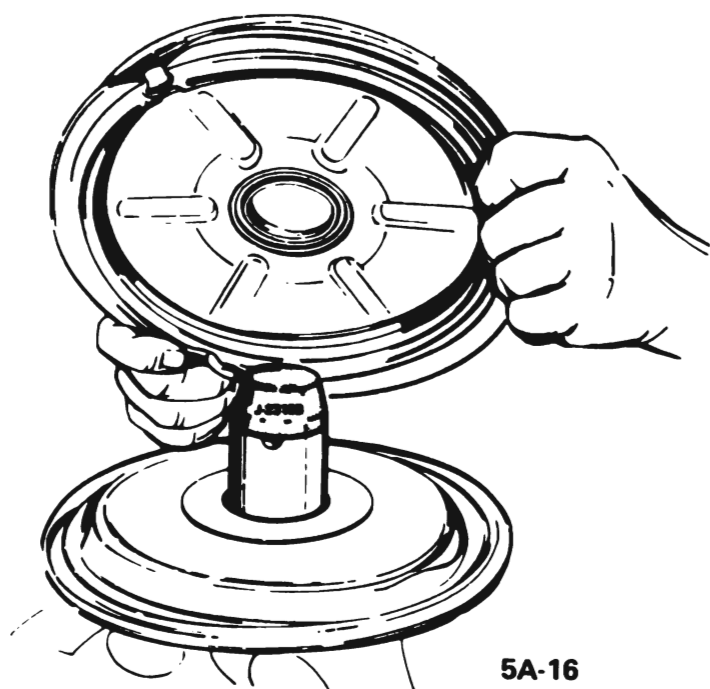

Figure 5A-16 Positioning Housing Divider Over Secondary Bearing Protector Tool J-23188
32. Position secondary bearing protector Tool J-23188 on the threaded end of the secondary power piston. See Figure 5A-16.
37. Grip the edge of the primary support plate, press down, and start the threads on the secondary power piston into the threaded portion of the primary power piston by rotating in clockwise direction. See Figure 5A-7.